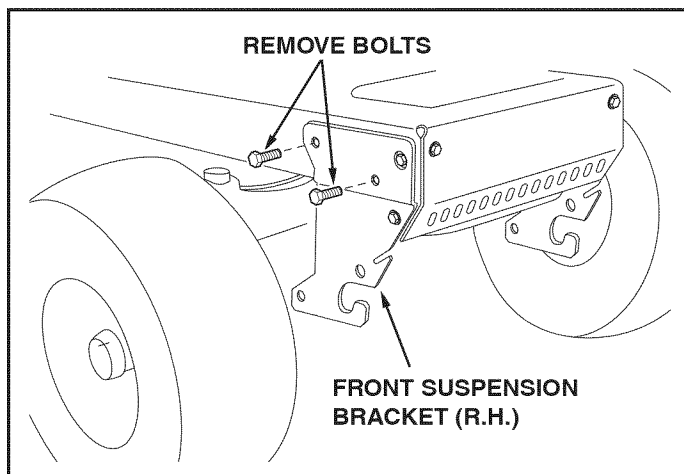
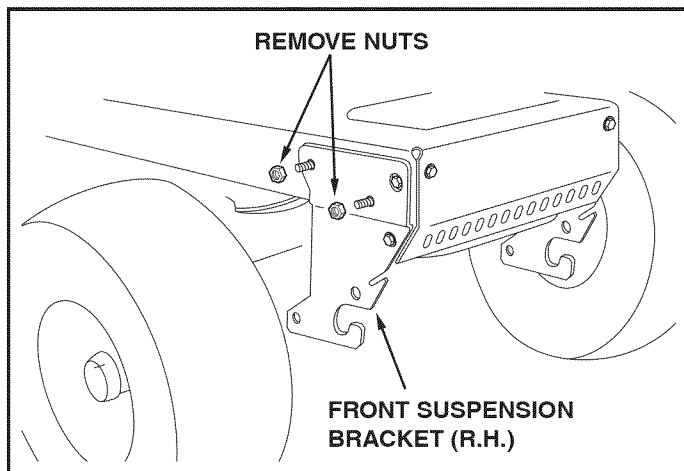
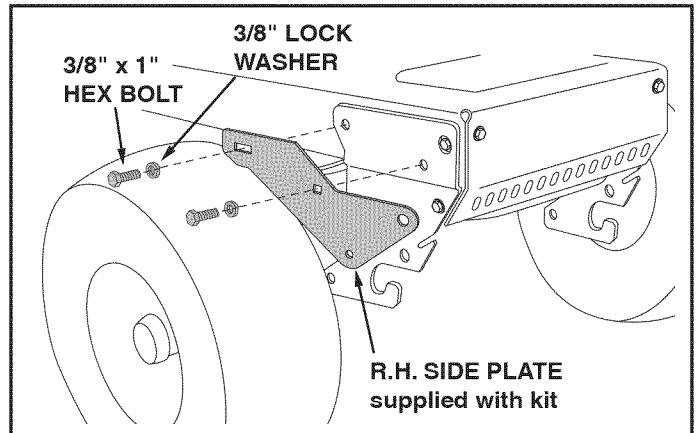
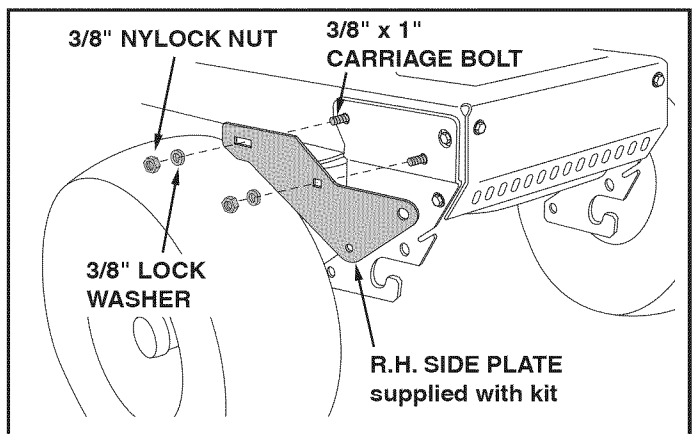

FIGURE 1a RIGHT SIDE VIEW
FIGURE 1b RIGHT SIDE VIEW
FIGURE 2a RIGHT SIDE VIEW
FIGURE 2b RIGHT SIDE VIEW
STEP 1: (SEE FIGURE 1a or 1b)
- Determine if your tractor has bolts like those shown in figure 1a or 1b.
- Remove either the hex bolts as shown in figure 1a or the nuts as shown in figure 1b.
STEP 2: (SEE FIGURE 2a or 2b)
- Attach the R.H. side plate (supplied with the kit) to the tractor. If you removed bolts as shown in figure 1a, install two 3/8" x 1" hex bolts and 3/8" lock washers as shown in figure 2a. If you removed nuts as shown in figure 1b, install two 3/8" x 1" carriage bolts, 3/8" lock washers and 3/8" nylock nuts as shown in figure 2b.